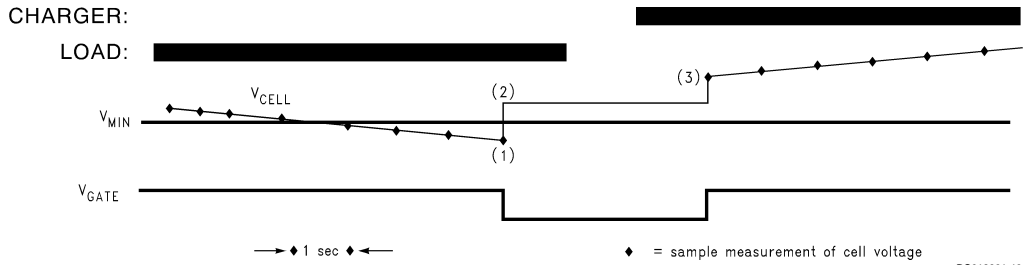

FIGURE 2. Normal Termination of Discharging
The cell voltage must go below V_{MIN} for 4 consecutive samples before the MOSFET pair is turned OFF (1), which is shown in *Figure 2*. Once the MOSFET pair is OFF and the current is interrupted, the voltage across the cell(s) will increase and the cell voltage could exceed V_{MIN} (2). The MOSFET pair remain off until a charger is applied to the pack (3). The presence of a charger turns the MOSFET pair ON. Deeply discharged cells will be charged, although for some narrow bands of V_{CELL} , the GATE may occasionally pulse OFF momentarily.